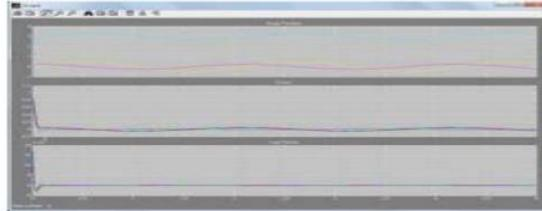

Fig. 20. Simulation results
- Observe the controlled Stewart platform motion. The Scope results given in fig. 20 show how the platform initially does not follow the reference trajectory, which starts in a position different from the platform's home configuration. The motion errors and forces on the legs are significant. Observe also that the leg forces saturate during the initial transient.